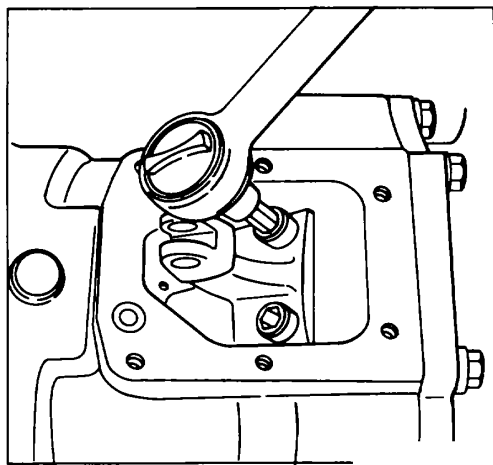

Figure 115.
7. Using an Allen wrench, remove Allen socket head cap screws (28) from the cam control lever assembly (35). Remove lever assembly from cam (12). See Fig. 115.